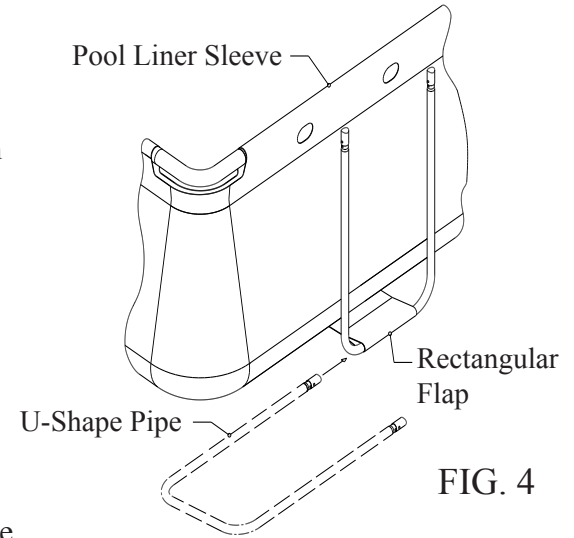

FIG. 4
4. Now insert the (U-Shape) pipe sections through the end of each rectangular flap at the bottom of the pool Fig. 4. **Note: The ladder should be assembled prior to raising the wall to allow helpers easy access in and out, ladder assembly instructions are with the ladder.** Next, one or two other persons will